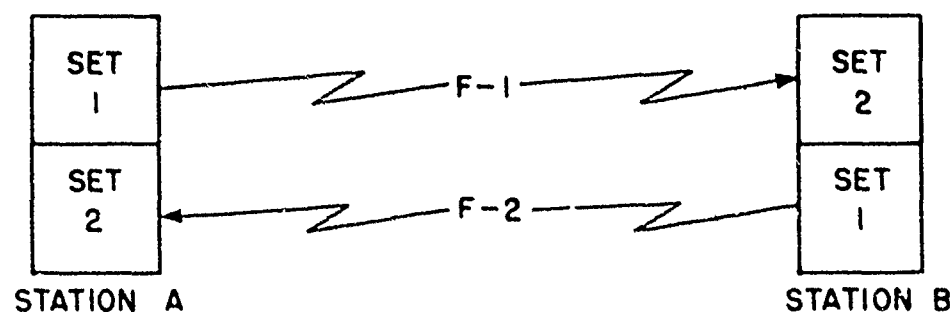

Figure 4-19. Duplex Operation.
- (1) For Normal Duplex Operation the two stations must transmit on different frequencies (Fig. 4-19).
- (2) Both stations must turn the AUTO switch to the DUPLEX positions.